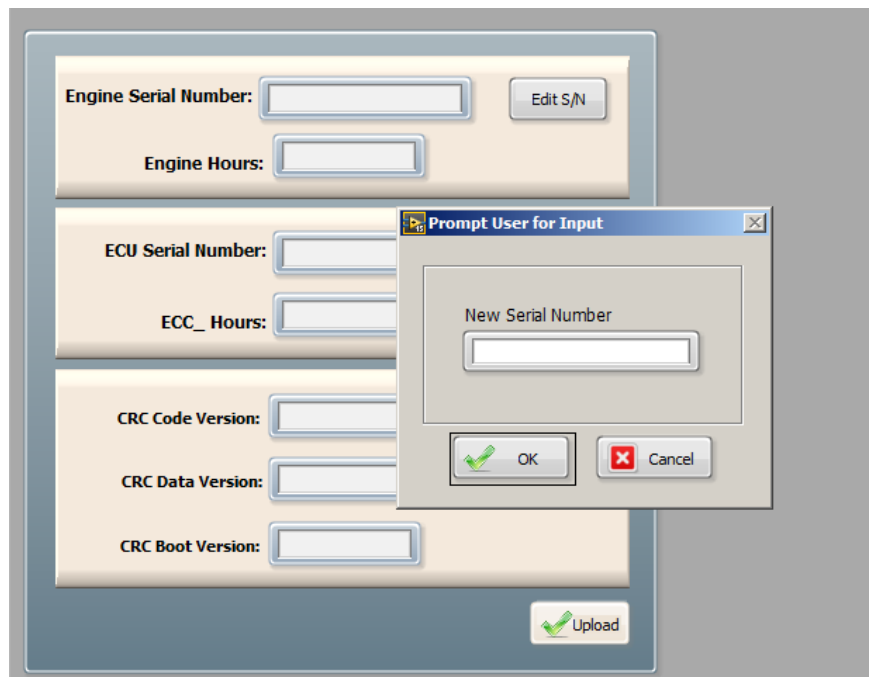

Figure C-24
- A. Click the **Edit S/N** (Figure C-24) button on the “Engine Serial Number” panel.